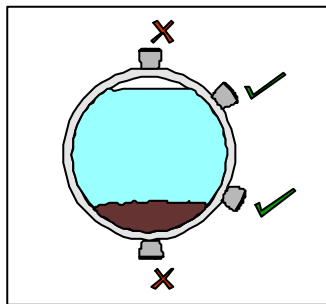

Figure 1. Correct Positioning on horizontal pipes
- On horizontal pipes it is preferable to mount the sensor between the 1 o'clock and the 5 o'clock position on the pipe to ensure that the ultrasound is easily transmitted into the fluid and not into an air pocket (top of pipe) or through a layer of sediment (bottom of pipe), see figure 1.